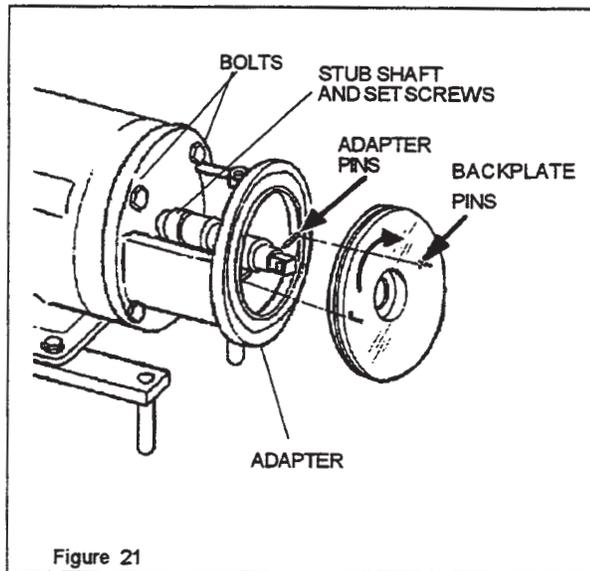

Figure 21
1. Install the adapter to the motor, with the drain cavity at the bottom. Insert the four bolts to secure the adapter to the motor. Tighten the bolts. (Figure 21)
4. Install the backplate on the adapter and rotate until the backplate pins engage the adapter pins, assuring solid contact of the backplate to the adapter. (Figure 21)